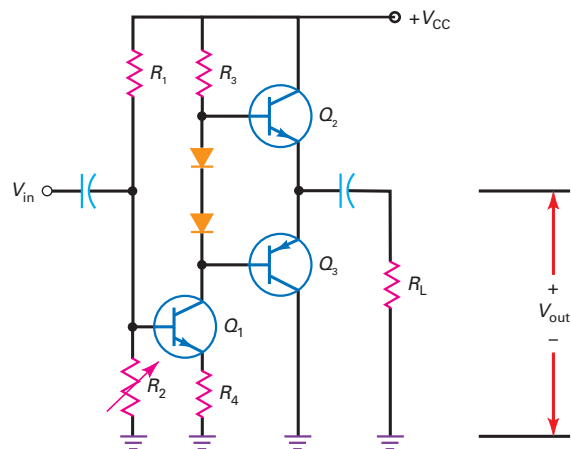
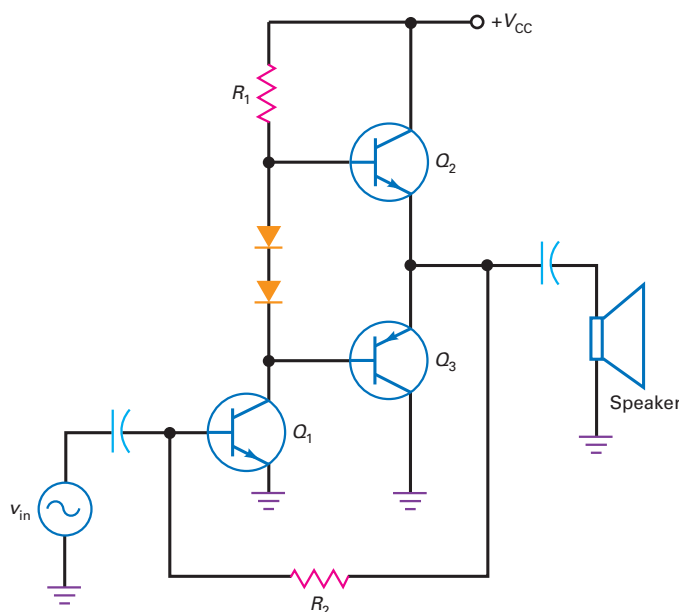

Figure 37-12 Direct-coupled CE driver for the complementary symmetry amplifier.
Figure 37-13 Two-stage negative feedback to CE driver.
The stage that precedes the output stage is called a **driver**. Rather than capacitively couple into the output push-pull stage, we can use the direct-coupled common emitter (CE) driver shown in Fig. 37-12. Transistor Q_1 is a current source
Figure 37-13 is another example of using a CE stage to drive a class B/AB push-pull emitter follower. The input signal is amplified and inverted by the Q_1 driver. The push-pull stage then provides the current gain needed to drive the low-impedance loudspeaker. Notice that the driver has its emitter connected to ground. As a result, this driver has more voltage gain than the driver of Fig. 37-12.